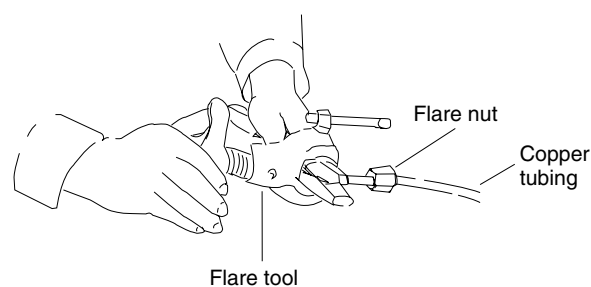

Fig. 7-3
- (3) Remove the flare nut from the unit and be sure to mount it on the copper tube.
- (4) Make a flare at the end of copper tube with a flare tool.* (Fig. 7-3)